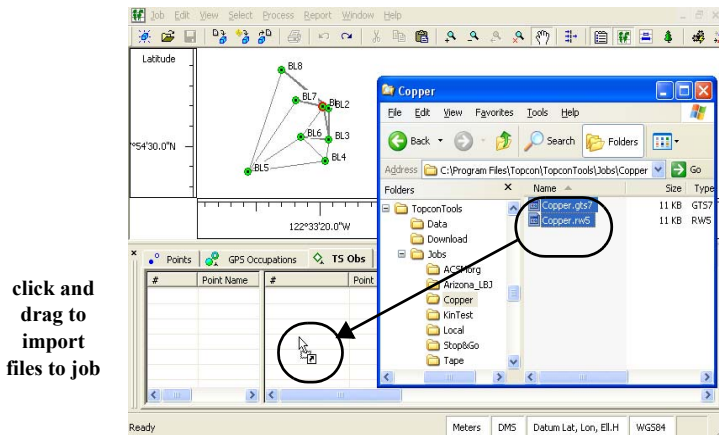

Figure 3-1. Import Data Into Existing Job Using Drag-and-drop
4. Click and hold the selected data, then drag-and-drop the files into Spectrum Survey Office (either Map or Tabular view) (Figure 3-1).